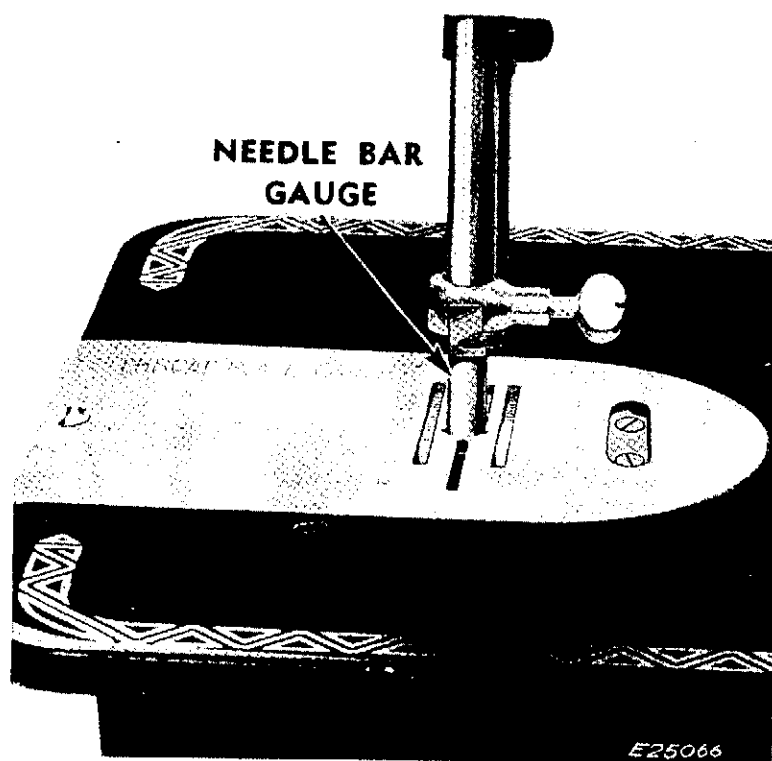

Fig. 65. Needle Bar Height and Radial Alignment
2. Replace throat plate with throat plate gauge No. G34200 as illustrated in **Fig. 65**.